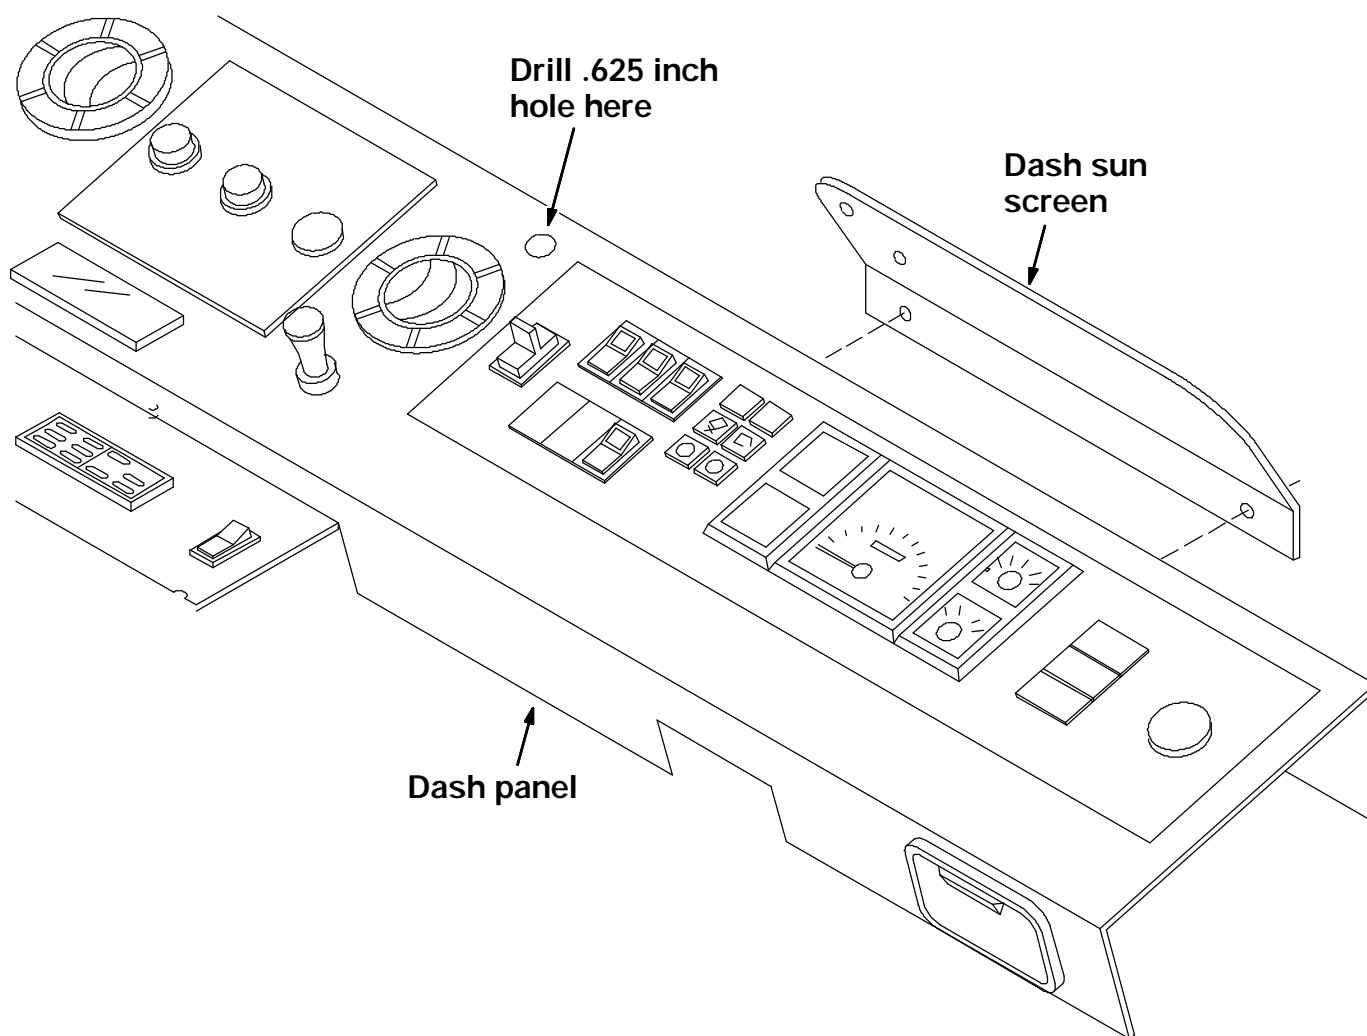

FIG. 3 - Dash Panel Hole Location
10. Use the dimensions in FIG. 3 to mark and drill one .625 in. hole on the left side of the dash panel.
11. Route the harness (8) through the .625 hole drilled in the previous step. Install the grommet (1) in the .625 in. hole.
12. Route the wires into the speedometer cup weldment (4). Install the grommet (3) into the wire access hole in the cup.
13. Mount the speedometer gauge (7) in the cup weldment (4).
14. Mount the cup (4) and speedometer (7) on the dash sun visor. Use the speedometer strip behind the sun visor.